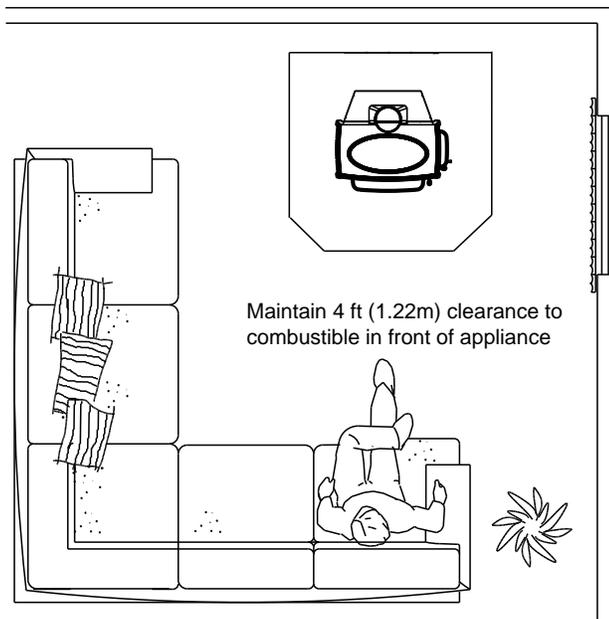

Figure 28.1 - Clear Space
- Do NOT place combustible objects within 4 ft (1.2 m) of the front of fireplace. **Figure 28.1.**